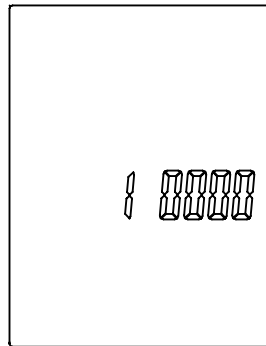

Fig. 6
1. Press **Power on/off** button to turn the unit on. The first value immediately shown is the number of data logging sample points remaining (Fig. 6).
4. **Note:** A maximum of 10,000 sample points is available (Fig. 6). As you log temperature readings, this value will be lower each time you turn on the meter. When the memory is full (with 0 sample points remaining), the first value shown will be "FULL" rather than a number. Or if you try to record, the **REC** icon will flash five times and disappear. At this point, you are no longer able to record until the memory is cleared. (See "Changing Setup Options", "Clear Memory Operation" on pages 7–8.)